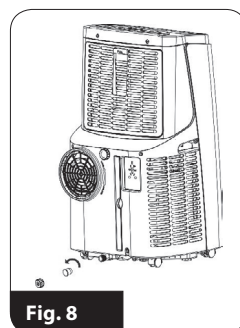

Fig. 8
- place a flat dish under the bottom water outlet plug (13)
- unscrew the cap, remove the rubber plug (Fig. 8)